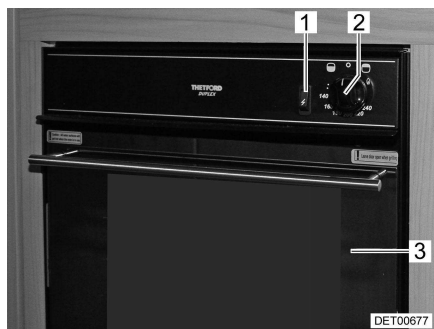
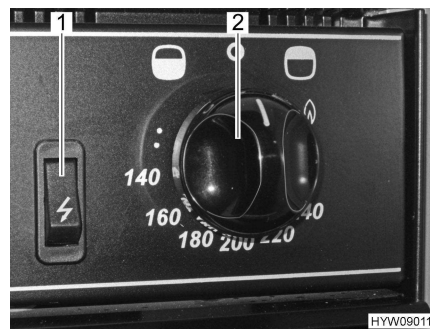

Fig. 88 Gas oven with grill
Fig. 89 Operating controls (gas oven with grill)
- Fully open the oven flap (Fig. 88,3).
- Press the control knob (Fig. 88,2 and Fig. 89,2) and set it to the maximum setting anticlockwise (towards the oven symbol "○").
- Press the control knob (Fig. 88,2 and Fig. 89,2) and hold it down for 5 to 10 seconds. Gas will stream into the burner.
- Keep the ignition switch (Fig. 88,1 and Fig. 89,1) pressed until the flame burns.
- Press the control knob (Fig. 88,2 and Fig. 89,2) and turn it clockwise (towards the grill symbol "◡") in the direction of the flame symbol.
- Turn the control knob (Fig. 88,2 and Fig. 89,2) to "○". The flame fades.